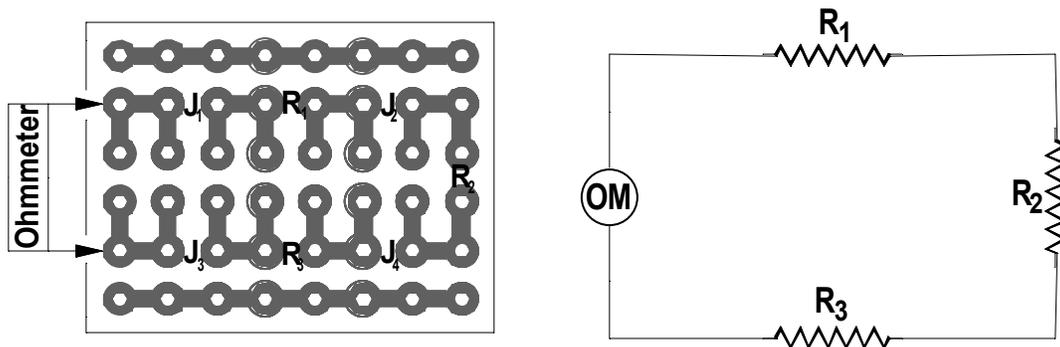

Figure 9. Wiring aid diagram and schematic for measuring the resistance of 3 resistors in series with the ohmmeter.
3. Connect only the jumpers and resistor #'s 1, 2, and 3 in series as shown in the schematic and wiring diagrams of Figure 9. Connect the ohmmeter as shown to measure the total resistance of the 3 resistors connected in series. Record this value in your spreadsheet. Note the value as compared to the values of the single resistors and the sum of the 3 resistors.